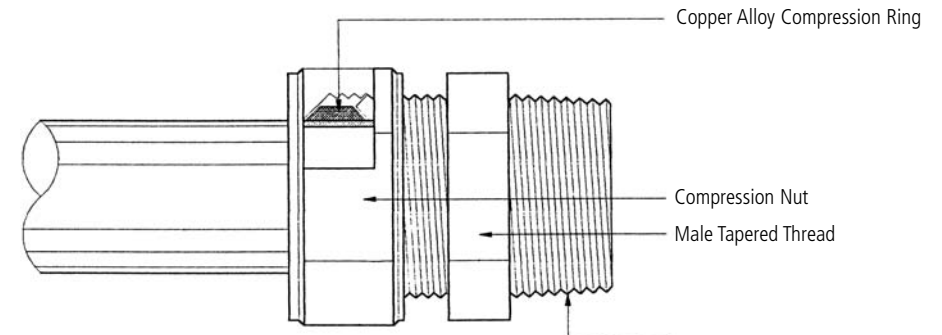

FIG.1 COMPRESSION FITTING
- 2.3.2 Compression type joints and fittings shall have copper alloy compression rings and are only permitted to maximum size of 35 mm in diameter. (Fig. 1)